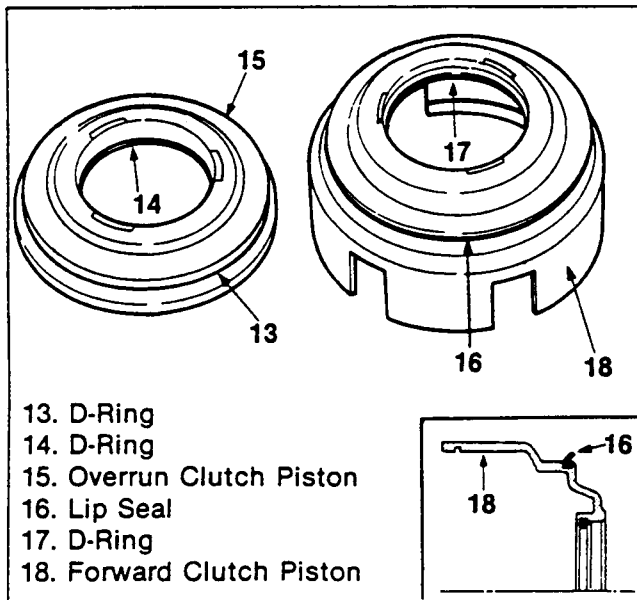

Figure 154. D-Ring and Lip Seal Installation
D-Ring and Lip Seal (Figure 154)
- Be careful of the lip's direction (figure 154).